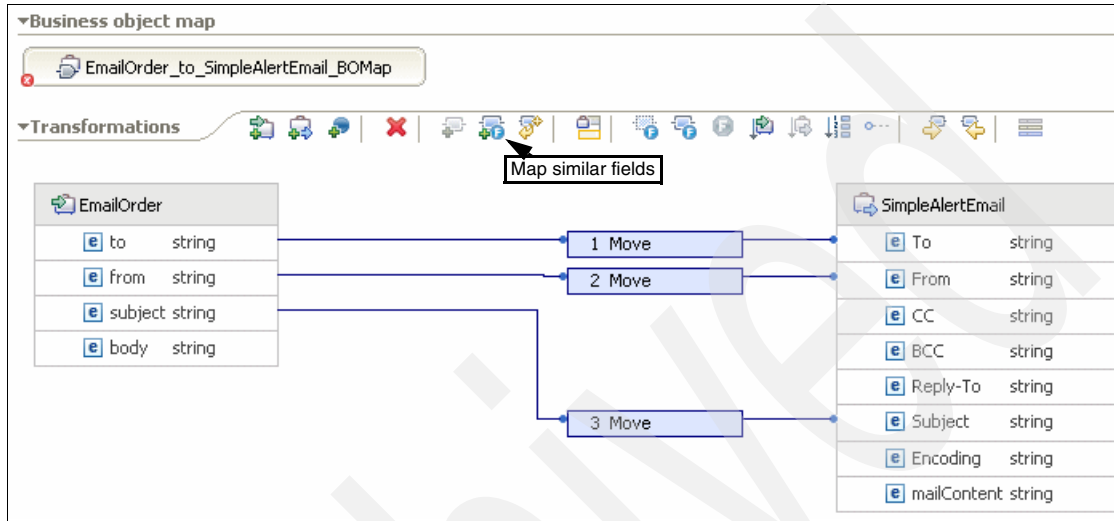

Figure 3-238 Similar fields mapping
- b. Click **OK** to continue with the default mapping settings. Mappings are created between the three fields with the same name. See Figure 3-238.